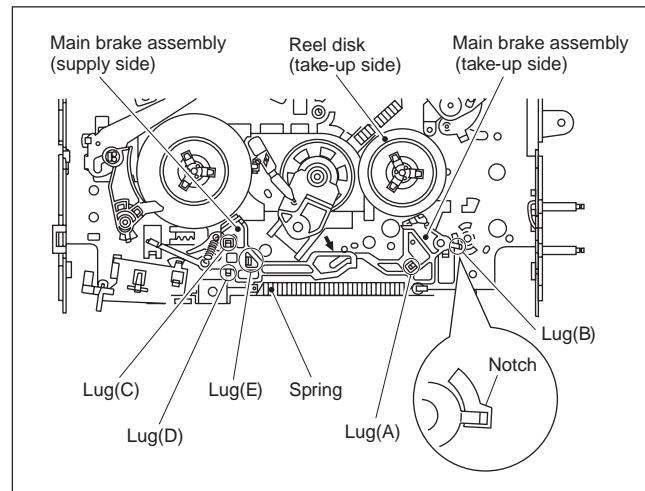

Fig.3-2-20a
- (1) Move the main brake assembly (take-up side) in the arrow-indicated direction and remove the reel disk (take-up side).
- (2) Remove the spring attached to the main brake assembly.
- (3) Remove the lug (A) of the main brake assembly (take-up side) and pull out the lug (B) after bringing it into alignment with the main deck notch.
- (4) Remove the lugs (C), (D) and (E) of the main brake assembly (supply side) from the main deck and pull them off. (See Fig.3-2-20a.)